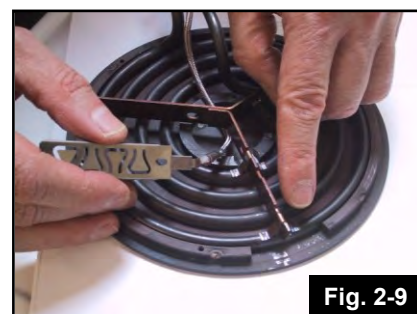

Fig. 2-9
8. Place the Safe-T-element® plate top-side down. Place burner element top-side down on the Safe-T-element® plate. The electrical connections for the element must be placed opposite the notch in the plate. (Fig.2-9)